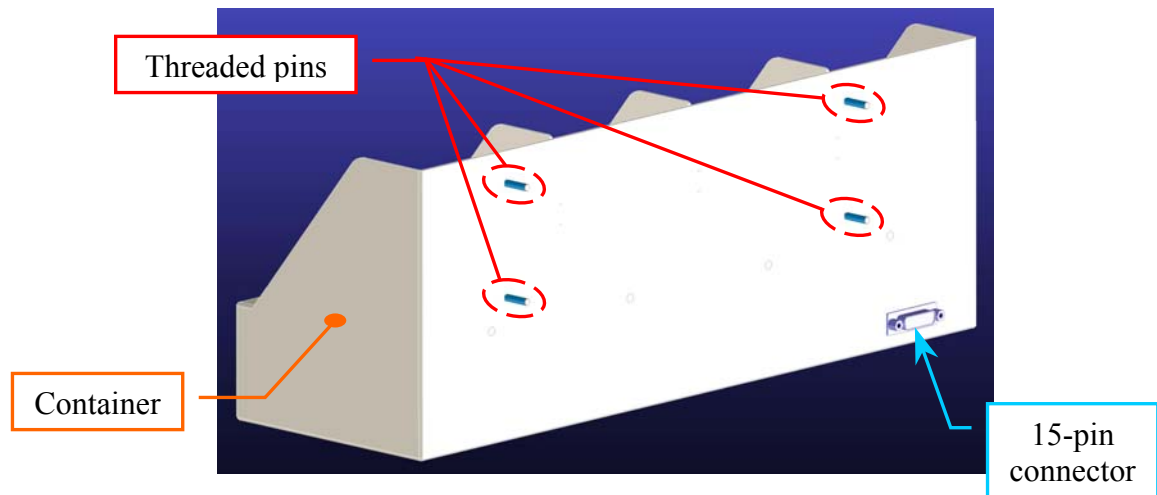

Fig. 1 – Four threaded pins of the container
3. Take the container, unscrew the four screw nuts from the respective threaded pins (**Fig.1**) and take off the four washers.